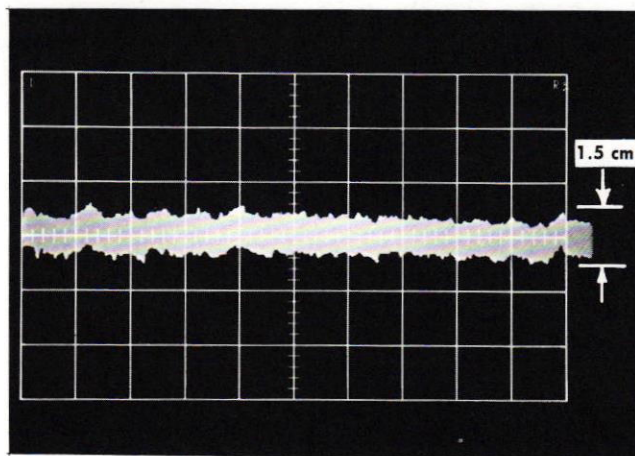

Fig. 5-4. Maximum random trace shift at 5 sec/cm, stored.
e. Check stored display for  $\leq 1.5$  centimeters peak to peak. See Fig. 5-4.